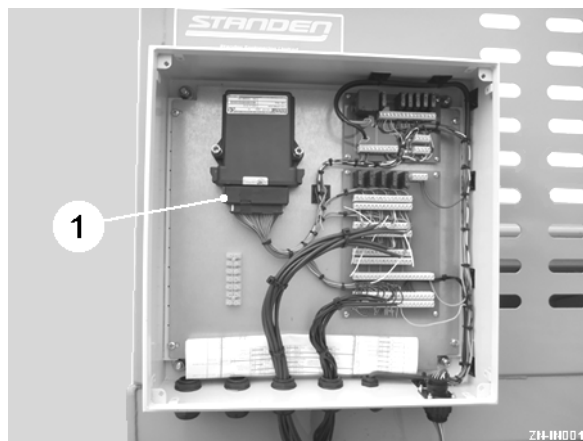

Fig 21
***Before carrying out any welding on the planter, always disconnect the plugs (item 1, fig 21). Failure to observe the above precaution may result in severe damage to the planter control system.***